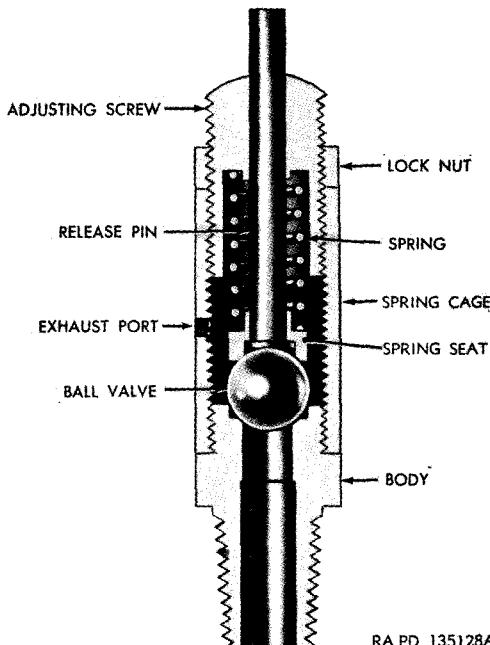

Figure 206. Sectional view of safety valve.
a. *Description* (fig. 206). The safety valve consists of a spring-loaded ball check valve. It is usually mounted on a reservoir to protect the air brake system against excessive pressure. Valves are usually set for 150 pounds pressure but setting can be varied to suit requirements.